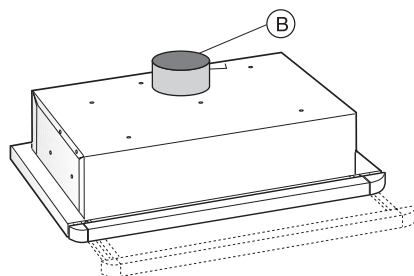

Fig. 3
- When mounting align the front of the cooker hood to the door of the cupboard. Mount and regulate the L wall spacer and fix with the screws marked P (Fig 3).